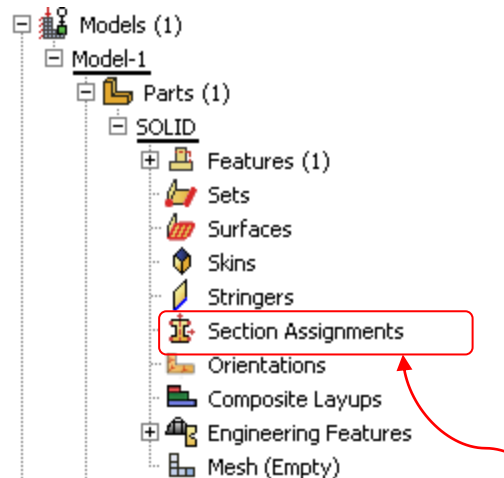

Figure 10. Model Tree Expansion (Parts)
- Now that the solid section has been created, it can be assigned to the geometry. In the model tree, click the + to the left of the **Parts (1)** icon, this will further expand the model tree's options. Next, click the + to the left of the part called **SOLID**, further expanding the model tree (Figure 10).